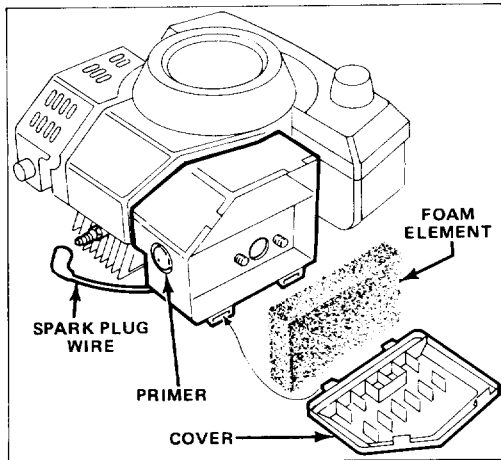

Figure 10
2. **STARTING** (Fig. 6 & 7)—Push wire onto spark plug. Move wheel drive control to **DISENGAGE** (model 16785 only) and throttle control to **CHOKE**. Cover hole in center of primer with thumb and push once (Fig. 10). Hold control bar against handle. Pull fingertip starter out until positive engagement results; then pull vigorously to start the engine. Regulate throttle as required when engine starts.
2. Lift tabs at top of air cleaner cover and pivot cover down. Clean cover thoroughly (Fig. 10).
3. If outside of foam element is dirty, remove it from air cleaner body (Fig. 10). Clean thoroughly.
1. Stop engine and pull wire off spark plug (Fig. 10).
2. Clean around spark plug and remove plug from cylinder head (Fig. 10).